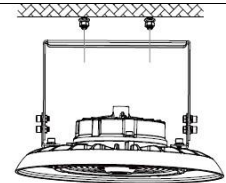
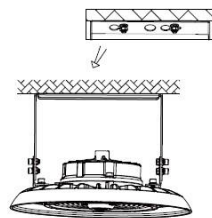

Figure 4
Figure 5
3. Align the bracket holes with the screw holes (Figure 4) and push the fixture to one side (Figure 5). Tighten the screws to secure the fixture.